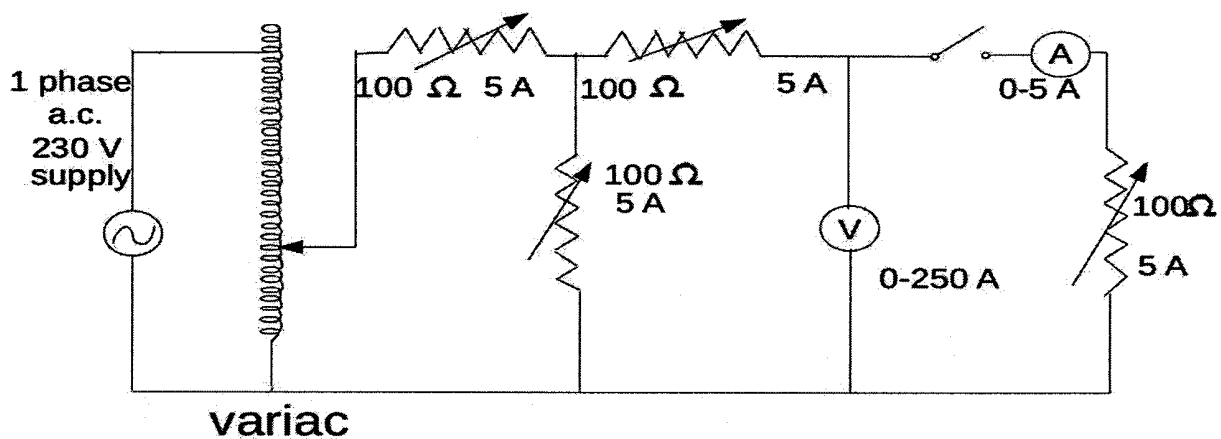

Fig. 1.
1. Connect the circuit as shown in fig. 1 below.